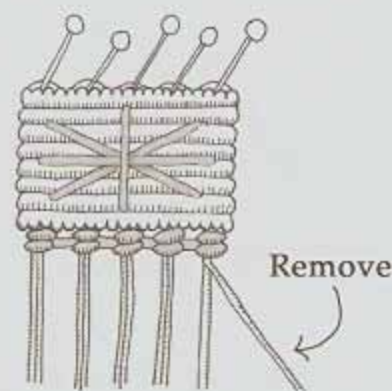

Fig. 13
- Make sure that the 5 **VDHs** on the bottom row are tight and pushed up snug against the row above it. Paint a generous layer of clear nail polish onto the backs of the **VDHs**. Let dry. Separate one cord from each of the 5 "bundles" one at a time and trim off very close under the knot using a utility blade or small sharp scissors, leaving only one cord protruding from each of the **VDHs** (see Figure 13). It's important not to cut into the **VDHs**, so take your time.